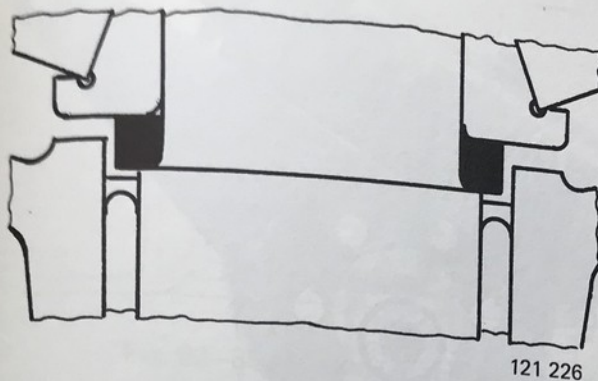

Fig. 92-75. Location for the washer
9. Place the spacer washer on the worm. Note that the bevelled inner edge of the washer should face to the front, see Fig. 92-75.